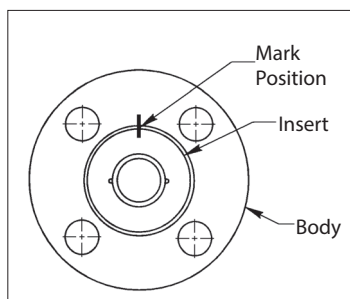

Figure 6.
11. Screw the insert (2) into the body until it is fully seats, and then mark its position as shown in **Figure 6**. Counting the number of turns, remove the insert.